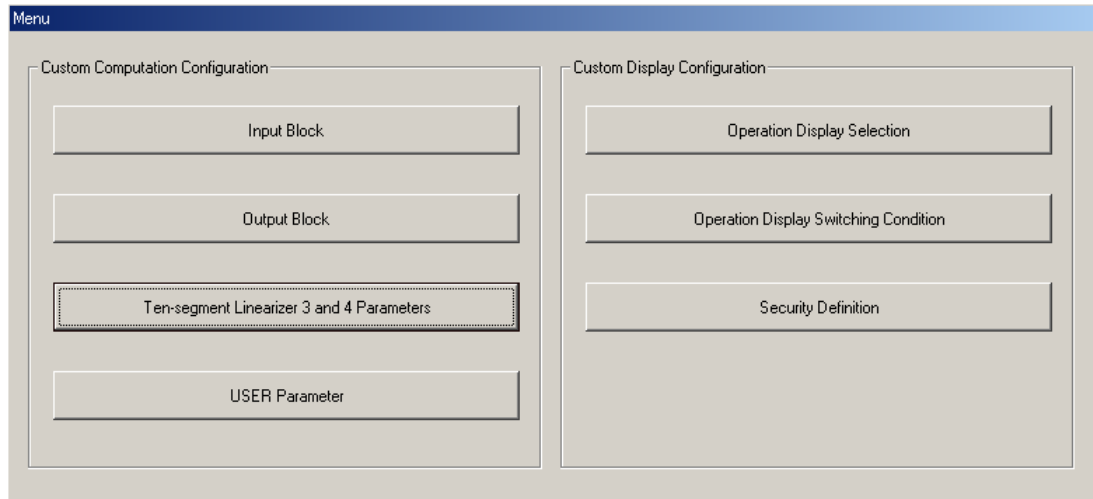
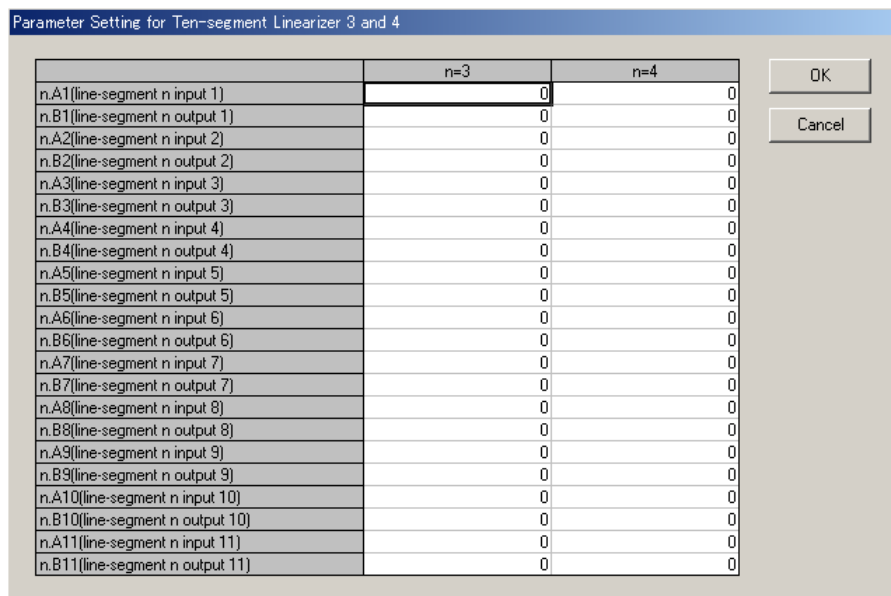

Figure 4.4.1 [Custom Computation Configuration Menu] Dialog Box
Figure 4.4.2 [Parameter Setting for Ten-segment Linearizers 3 and 4] Dialog Box
- (1) In the [Custom Computation Configuration Menu] dialog box (Figure 4.4.1), click the <Ten-segment Linearizers 3 and 4 Parameters> button. The [Parameter Setting for Ten-segment Linearizers 3 and 4] dialog box (Figure 4.4.2) appears.